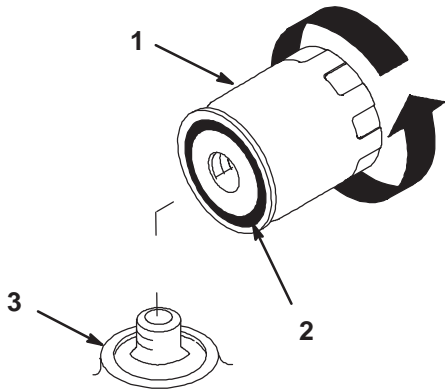

Figure 26
2. Remove the old filter and wipe the filter adapter gasket surface (Fig. 26).
3. Apply a thin coat of new oil to the rubber gasket on the replacement filter (Fig. 26).
4. Install the replacement oil filter to the filter adapter. Turn the oil filter clockwise until the rubber gasket contacts the filter adapter, then tighten the filter an additional 1/2 turn (Fig. 26).